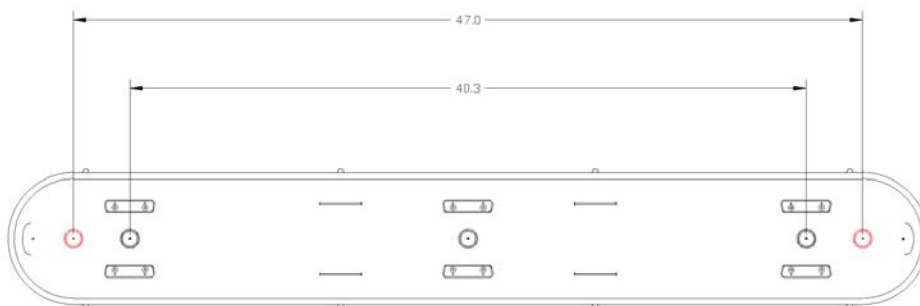

Fig 1
1. If field installing wet location fittings, remove diffuser, lamps and channel cover. Drill out two (2) holes on the back of fixture housing using 7/8" hole saw and remove KO's from channel (Fig 1, 47" on center).